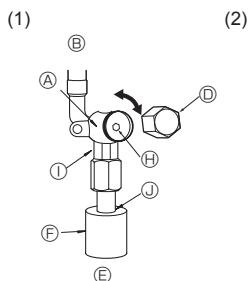

Fig. 4-6
(1) Gas side of SW75 (Fig. 4-6)
- ① Remove the cap and turn the valve rod counter clock wise as far as it will go with the use of a 5 mm hexagonal wrench. Stop turning when it hits the stopper.